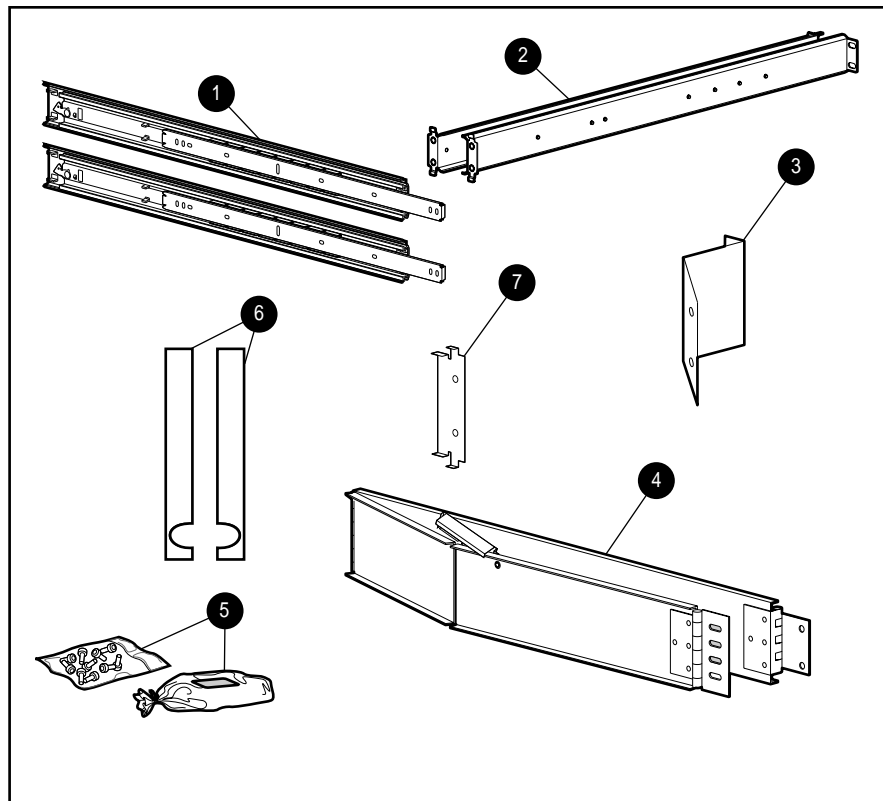

Figure 3-1. Rack mounting hardware included with the server
- Rack mounting hardware (numbers reference Figure 3-1)
- ① One pair slide rail mounting brackets
- ② One pair 26-inch slide rail assemblies
- ③ Cable management arm bracket
- ④ Cable management arm
- ⑤ Cable management arm support bracket
- ⑥ Plastic rail covers (2)